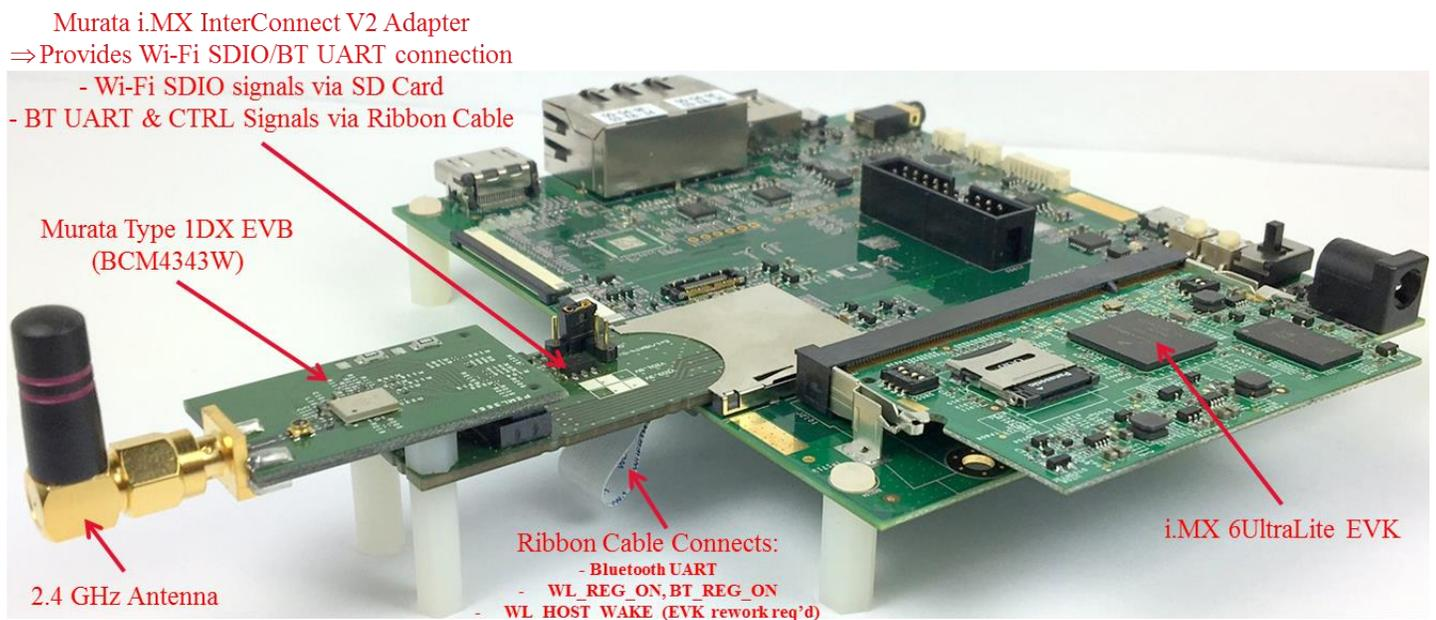

Figure 7: i.MX 6UltraLite EVK with V2 Adapter and Type 1DX EVB
- [5] Connect ribbon cable at both ends before inserting Murata EVK into SD1 slot. Note the orientation as shown in **Figure 7**. The UltraLite uses a “push-push” SD card connector. **Make sure that the adapter clicks in correctly.**